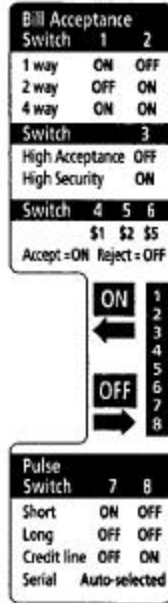

Figure 2
**Important note:** Placing any switch ON will override the above options, and the Bill Acceptor will operate according to the switch settings label! (See Figure 2).